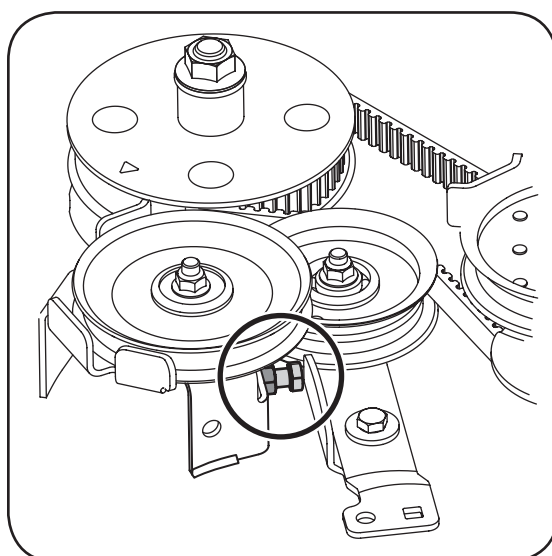

Figure 5-18: Loosen the screw and nut on deck mount.
5. Loosen 3/8-16 screw and nut attached to deck mount, Figure 5-18.